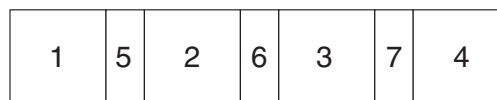

Figure 18. Sequence of cuts.
11. When making rectangular mortises, follow sequence of cuts shown in **Figure 18**. Position chisel over center of cuts 5, 6, and 7, since these only use part of the chisel.